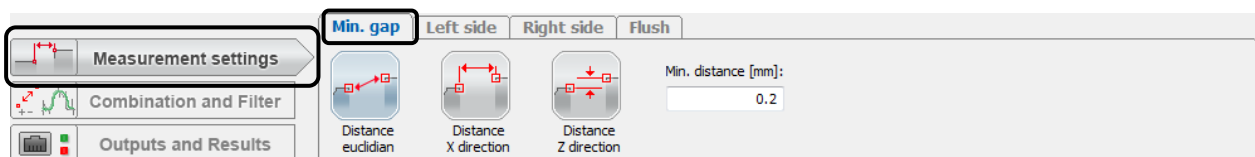

Fig. 3.34: "Measurement settings" input field, "Min. gap" tab sheet
- If not already done, press the "Measurement settings" button (see Fig. 3.34).
- If not already done, press the "Min. gap" tab sheet (see Fig. 3.34).